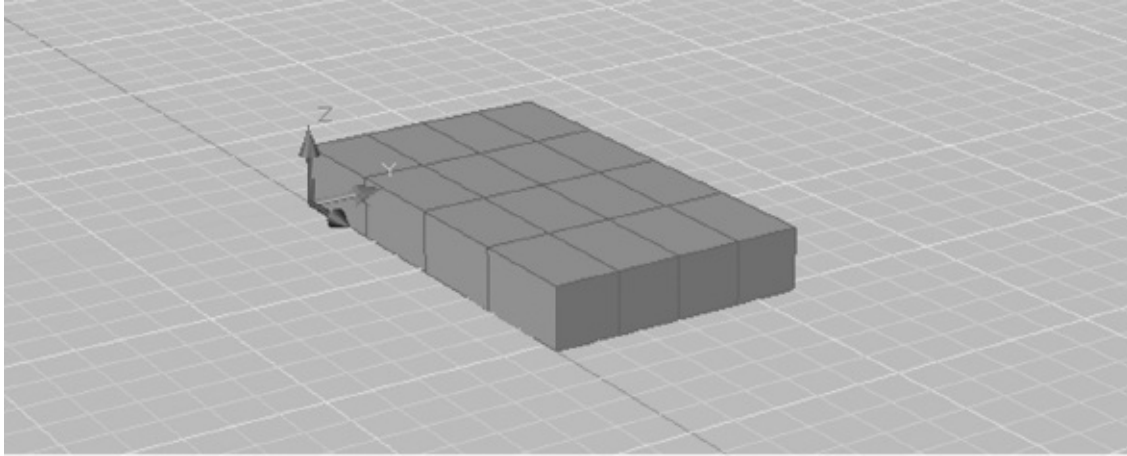

FIGURE 23.7 The mesh box
5. Center the box in your view. Your model should look similar to Figure 23.7.